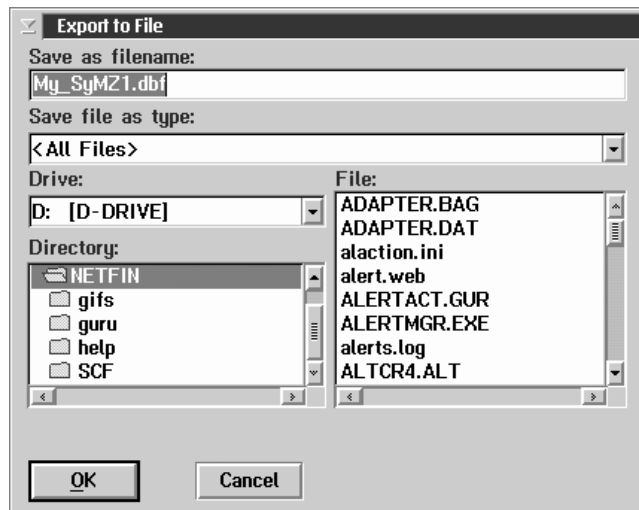

Figure 110. The Export To File window
- If you selected the **Export System Information to a File** option, the Export To File window appears (see Figure 110).